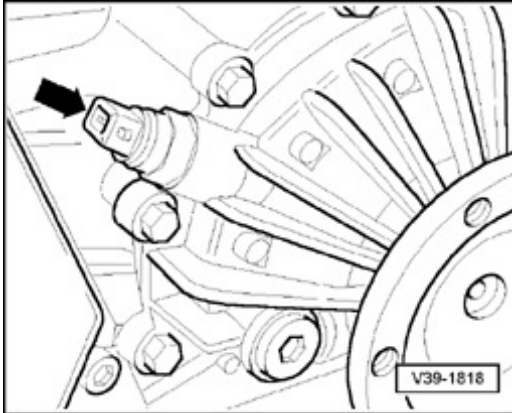

Fig. 1 Removing and installing transmission Vehicle Speed Sensor (VSS) -G38-
- ◆ Transmission Vehicle Speed Sensor (VSS) -G38-, removing and installing Fig. 1